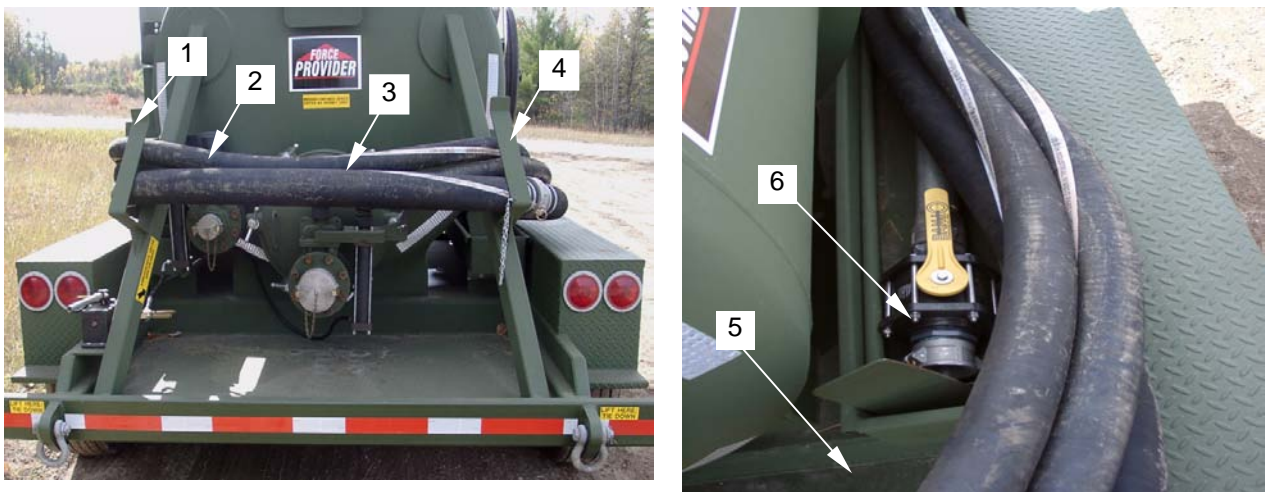

Figure 4. Drain Hose Storage and Equipment Tray
- Drape the drain hoses over the trailer hose hooks (**figure 4, item 4**), with the two ends resting in the equipment trays (**figure 4, item 5**). (Do not connect the chopper tube/wand (**figure 4, item 6**) to the intake hoses at this time; store chopper tube/wand in equipment tray)
- Connect the drain hoses in series and drape over the trailer hose hooks (**figure 4, item 4**), with the two ends resting in the equipment trays.